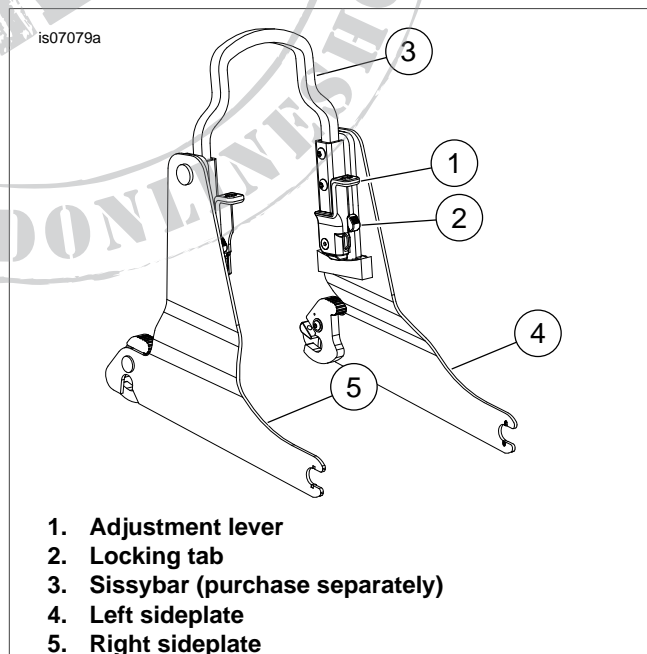

Figure 6. Sideplate Adjustments
4. See Figure 6. Insert the legs of the sissybar upright (4) all the way into the channels (3) of the sideplates as shown.
5. Apply a few drops of Loctite to the threads of the button head screws (4).
1. See Figure 6. To adjust the sissybar, first press the locking tabs (2), then lift the adjustment levers (1) and rotate the sissybar to the desired position. Push the adjustment levers back into their locked positions.